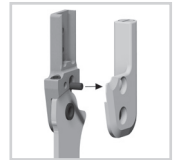

fig. 17
- 3 Drive out the premounted securing pin with a pin punch (fig. 17).